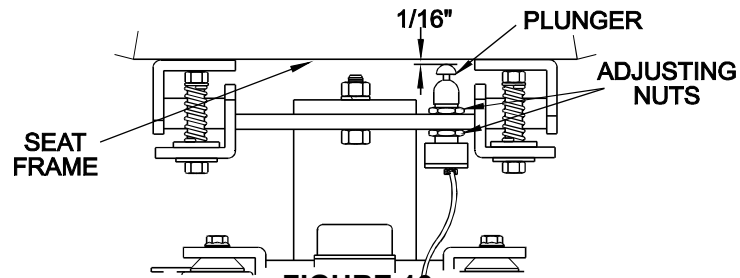

FIGURE 13
- b) With operator out of seat, adjust the seat switch to provide a 1/16" clearance between the switch plunger and the seat frame (See Figure 13).